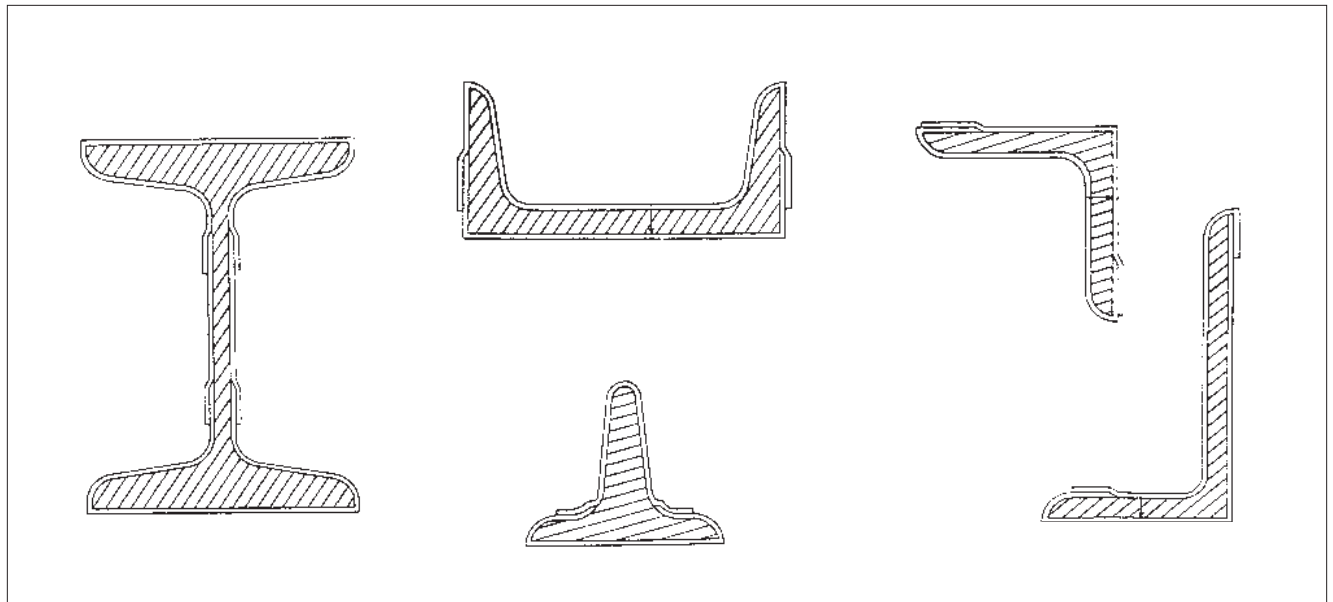

Figure 3
- 10.2 Use Denso Hi-Tack Primer & Denso Hi-Tack Tape which permit overlaps of at least 1" to be made in a downward direction (weatherboard effect) on vertical surfaces. Minimize the overlaps on the underside of horizontal surfaces (See Figure 3).
- 10.10 See Figure 3 for examples.